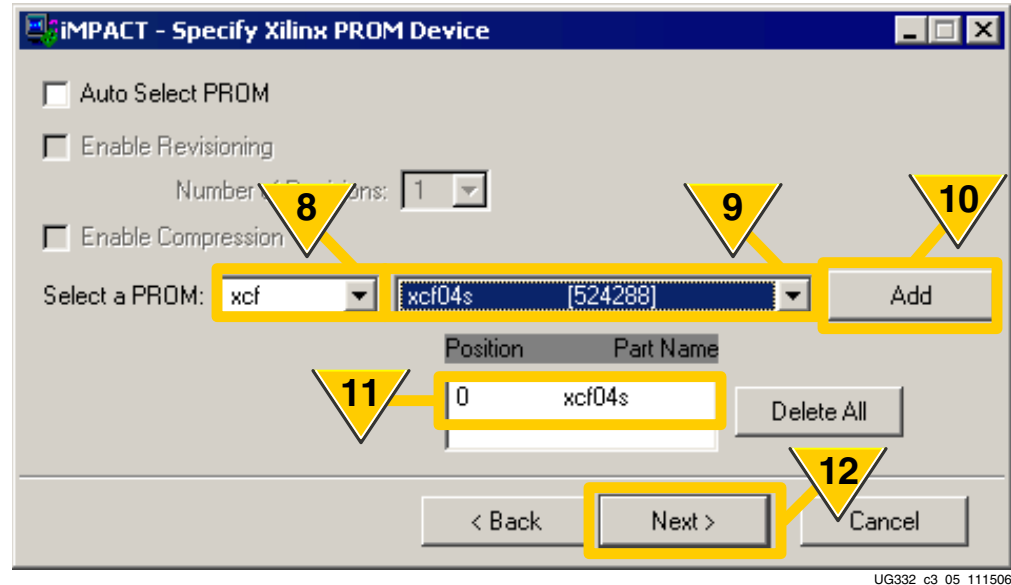

Figure 3-10: Select Platform Flash PROM
- As shown in Figure 3-10, select the xcf (Platform Flash PROM) family from the drop-list.
9. Select the desired Platform Flash part number. The example in Figure 3-10 shows an XCF04 PROM, which stores up to 4 Mbits, or 524,288 bytes.